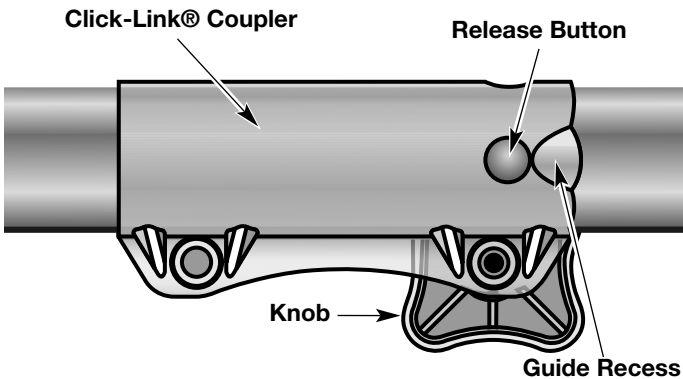

Fig. 11
1. Turn the knob counterclockwise to loosen (Fig. 11).
2. Press and hold the release button (Fig. 11).
1. Turn knob counterclockwise to loosen (Fig. 11).
NOTE: Aligning the release button with the guide recess will help installation (Fig. 11).